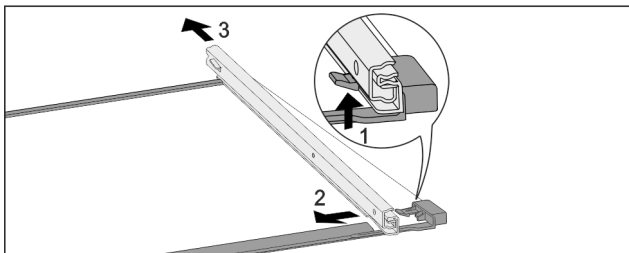

Fig. 190 Glass shelf with rails
- ▶ Push up front click-in hooks. Fig. 190 (1)
- ▶ Move the pull-out rails to the side Fig. 190 (2) and to the rear Fig. 190 (3).